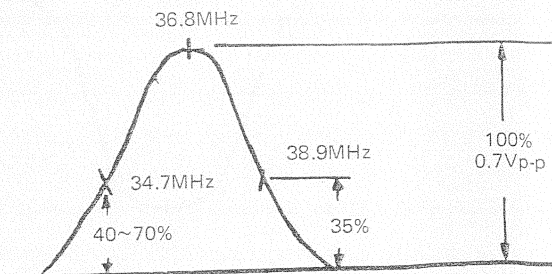

Fig. 19
1. Adjust the T2 and T101 to obtain a response curve in Fig. 19.